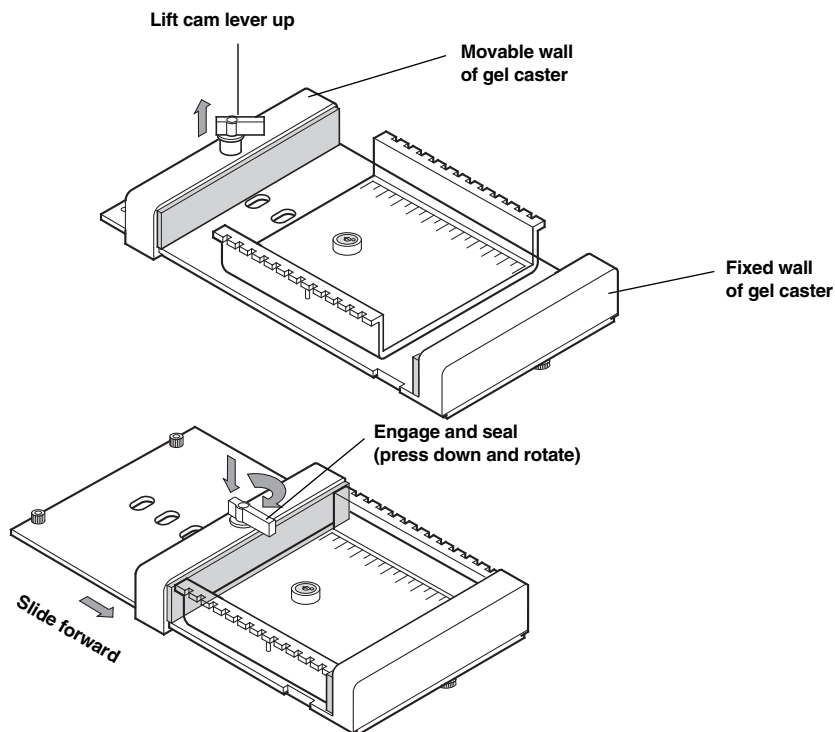

Fig. 2.1. Sealing the UVTP tray for gel casting.
4. Slide the movable wall against the edge of the UVTP tray (Figure 2.1).